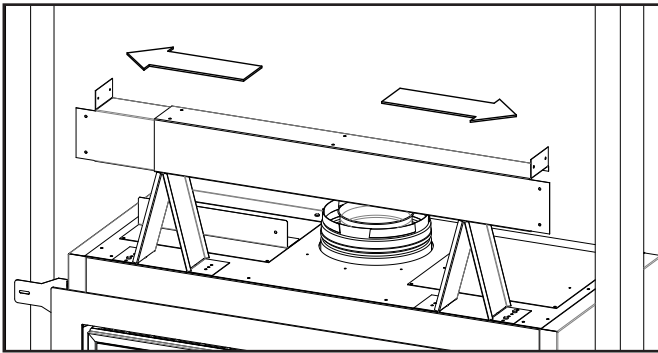

Figure 15: Steel Stud Placement
2. Place the steel stud onto the top standoffs and slide outwards until both ends make contact with the framing studs (see Figure 15).